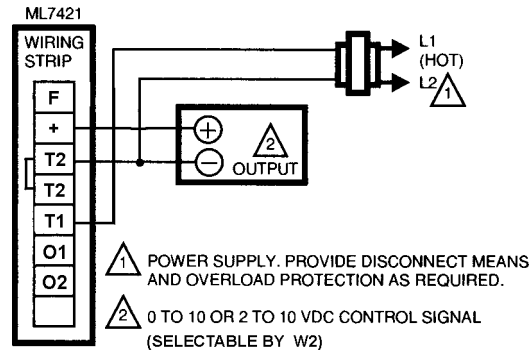

Fig. 4. ML7421 typical wiring diagram.
2. Using the wiring diagrams in Fig. 4 through 6, connect the power and control wires to the ML7421. Make sure that all wiring is correct.